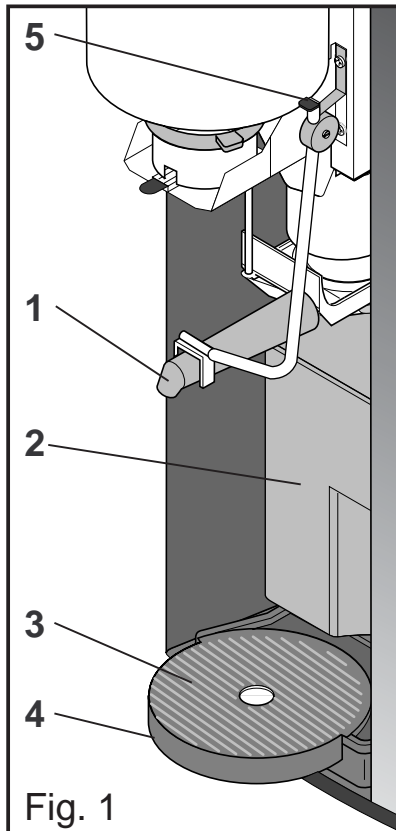

Fig. 1
- Remove drip grid (1) and tray (2). Clean them in hot water with cleaning agent and rinse them with pure water. (Fig. 1)
- Open the dispenser, unlock (5) the delivery spout (1) and turn it upwards. (Fig. 1) (Residual water can drip out of it)
- Remove the coffee grounds container (2) from the dispenser and empty it. (Fig. 1)